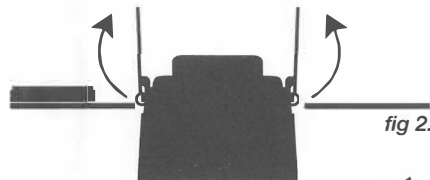

fig 2.
- Fit the downlight into the hole (see fig 2.) in the ceiling with the 2 spring clips supplied. (see fig 3.)